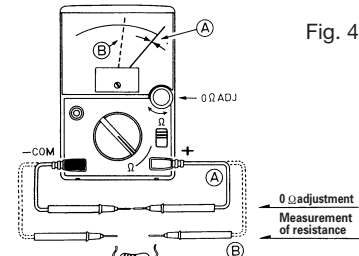

Fig. 4
- Before using the unit, short-circuit the + and -COM terminals as shown in Fig. 4 and align the indicator needle to 0 Ω line using the zero ohm adjuster. (This operation is also called "Full scale adjustment.") This adjustment should be completed before beginning measurement. If this adjustment is made each time the range has been changed, correct measurements can be expected.